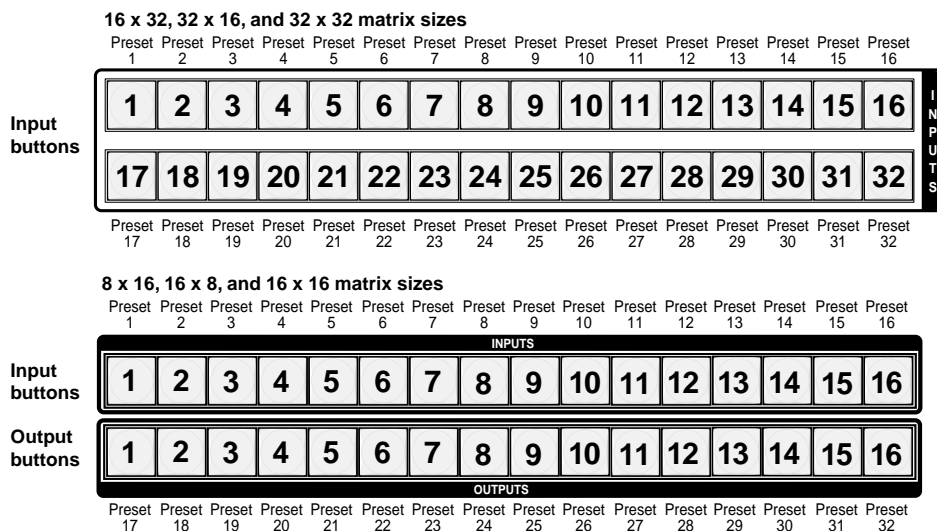

Figure 3-36 — Preset locations
- Figure 3-36 shows the presets associated with the two input and output button configurations for the MTPX Plus matrix switchers.